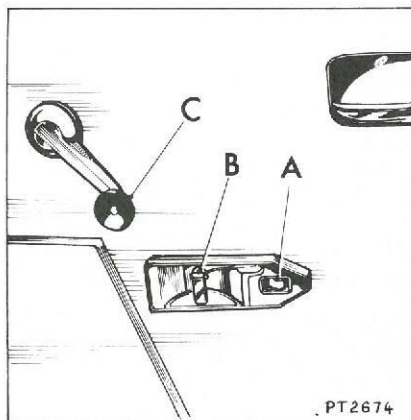

Fig. 2
Both doors may be locked from the inside by moving button (A) (Fig. 2) forward. This condition is cancelled by pulling lever (B) to open the door or when the door is unlocked from the outside with the key.
Door Windows (Fig. 2)